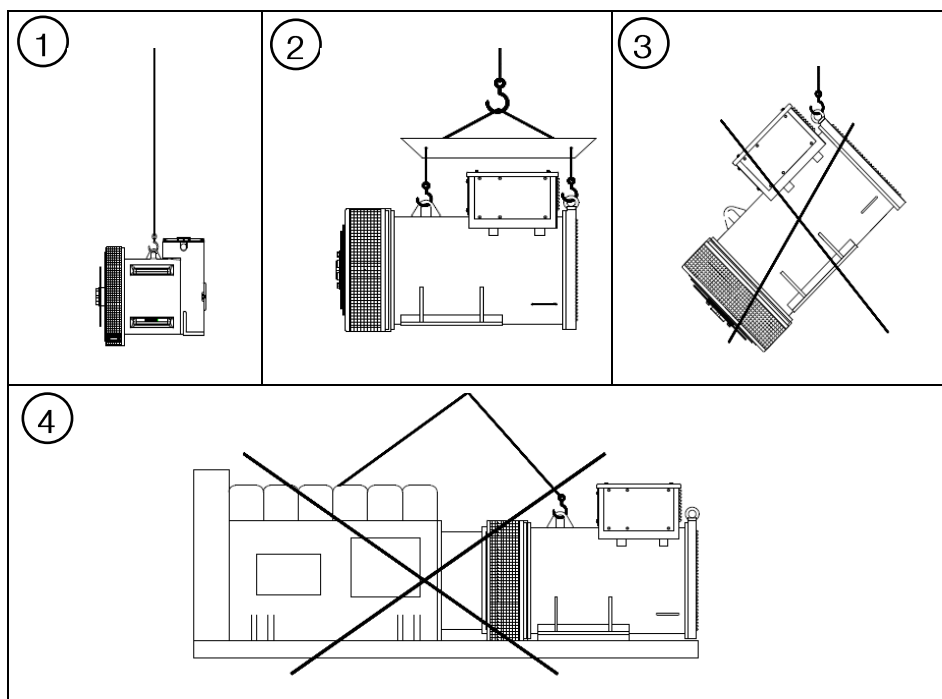
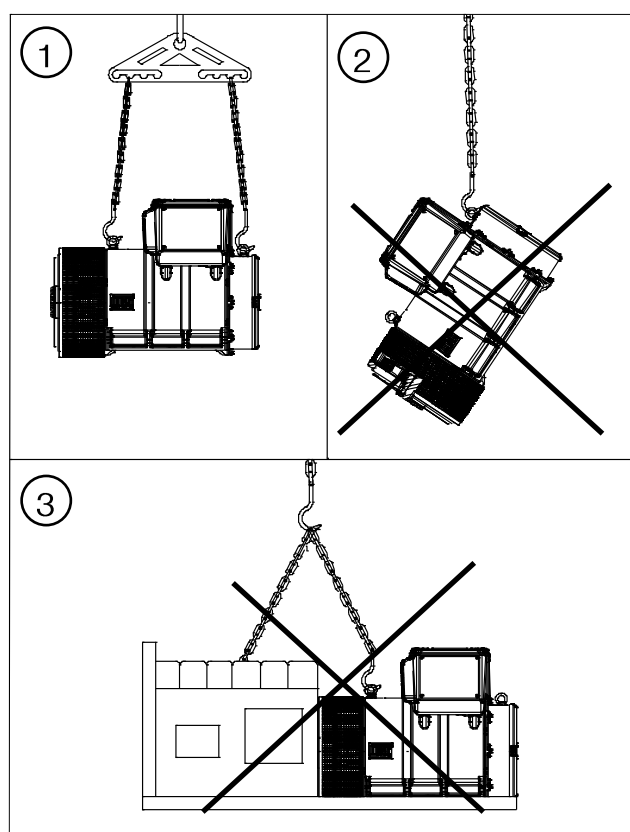

Figure 4.1: Handling of alternator Line G
Figure 4.2: Handling of alternators Line AG10
- All the lifting points shall be used, according to the tables 1 and 2 of Figure 4.1 and table 1 of Figure 4.2.
- It is not allowed to lift additional loads, according to table 4 Figure 4.1 and table 3 of Figure 4.2.
- It is not allowed to lift only by the front or back of the alternator, according to table 3 of Figure 4.1 and table 2 of Figure 4.2.